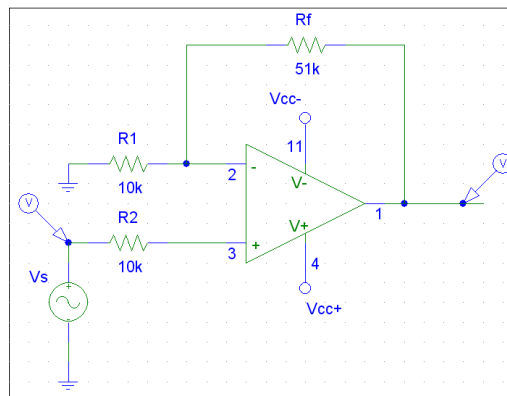

Fig. 4 Noninverting amplifier
1. Solder circuit illustrated in fig. 4.